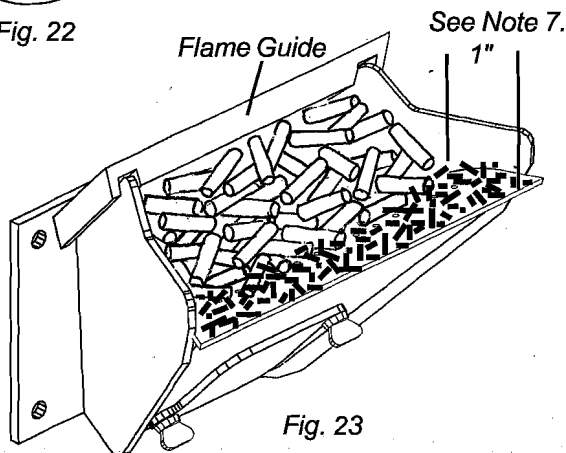

Fig. 23
7. Setting the feed adjuster # for maximum burn: With the unit burning in "AUTO", turn to "Stove Mode" and put the fan on "H". Set the Temperature Dial to #7. Allow the unit to burn for about 30 minutes and check ash on front of burn pot. Fig. 23. If the ash line is larger than 1", turn the feed adjuster from #4 to #5. Allow another 30 minutes of burn time and check again. If, at #6 setting, a 1" or less ash bed is not obtainable, it is not a problem. The 1" ash bed is only a maximum burn rate and at most normal settings the ash bed will be larger.